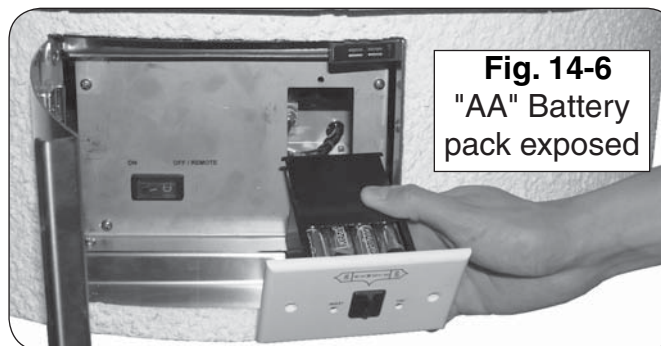

Fig. 14-6
To access the "AA" battery pack, unscrew and remove the two (2) retaining screws on the control system. Pull out the control system and then slide open the battery pack lid as shown in Fig. 14-6. Replace the old batteries with four (4) new "AA" batteries. Resecure the battery pack lid and return the control system into the control panel. Screw in the two (2) retaining screws.